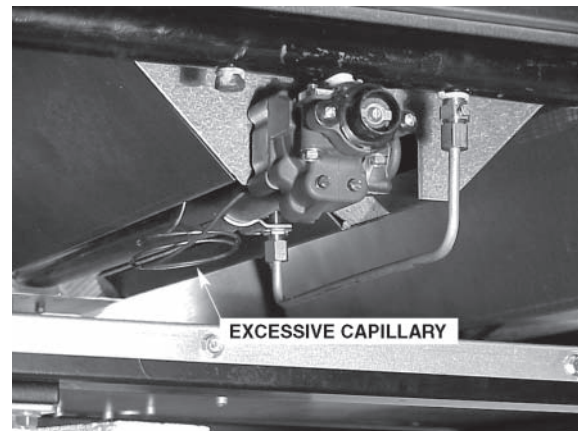

Fig. 7
3. After all bricks and capillary bulbs are installed, carefully align and lower griddle assembly down so that it is resting evenly on the unit. Check to insure that all excess capillary is resting below the brick baffle area (Fig. 7).